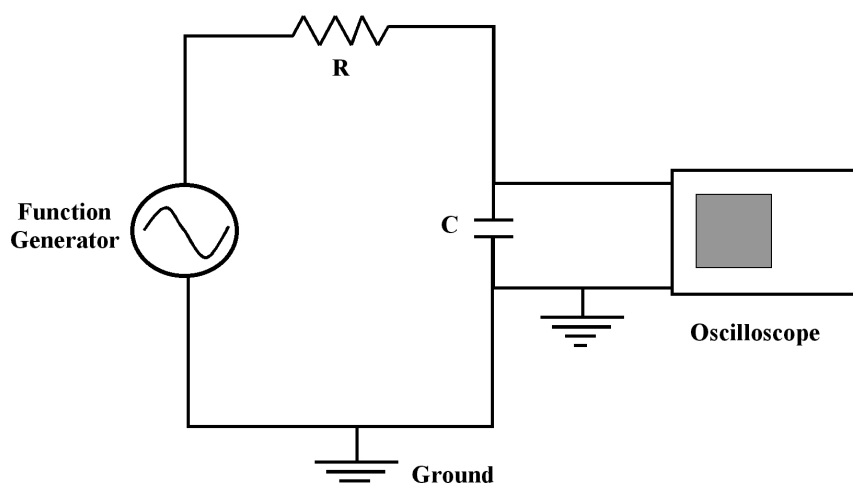

Figure 3: Circuit Diagram for RC Circuit with Oscilloscope
2. Combine the $10\text{ k}\Omega$ resistor and the $0.1\ \mu\text{F}$ capacitor in a series circuit with the function generator. Refer to the circuit diagram in Figure 3. Connect the oscilloscope so that it measures the voltage drop across the capacitor. ***Be careful that the Function Generator ground is connected to the Oscilloscope ground.***